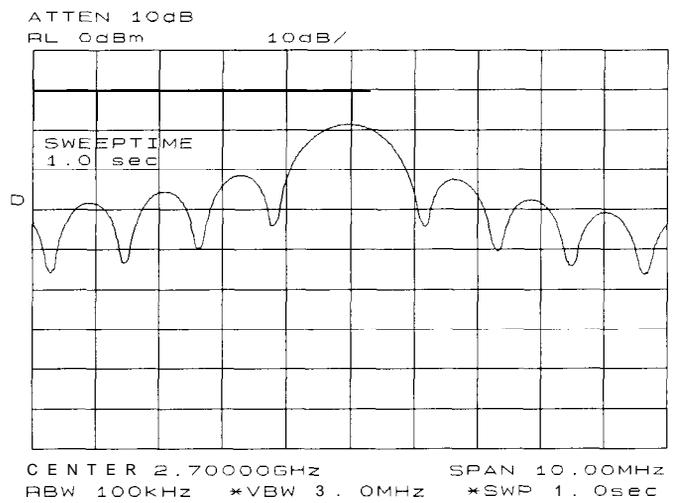

Figure 2-82. Trace Displayed as a Solid Line
6. Increase the sweep time (that is, the sweep becomes slower) until the display fills in and becomes a solid line (see Figure 2-82). If this line does not fill in, the instrument is not in broadband mode, in which case the following procedures for side lobe ratio, pulse width, and peak pulse power do not apply. For further reference, consult Hewlett-Packard Application Note 150-2, entitled "Pulsed RF" (literature number 5954-2705).